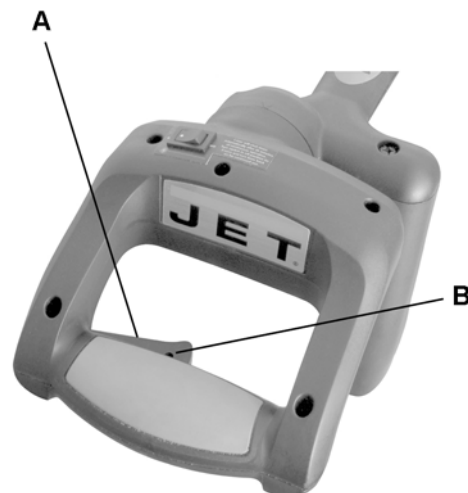

Figure 23
4. Squeeze the *trigger switch* (A, Fig. 23) to start saw.
2. Release trigger switch (A, Fig. 23) and wait for all moving parts to stop before moving your hands and raising the cutting arm.
Depress the trigger switch (A, Fig. 23).
**Note:** Make the On/Off switch child-proof by inserting a padlock through the hole (B, Fig. 23) in the trigger switch.